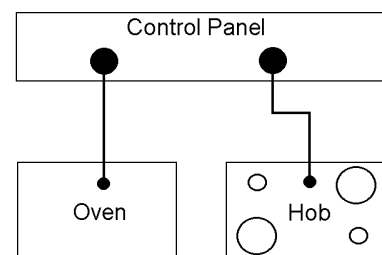

Fig. 2
- c) If you wish to connect an oven and a hob to a cooker point you can by connecting the oven and hob separately to the cooker point. Oven and hob units should be separately connected to a control panel. See Fig. 2.